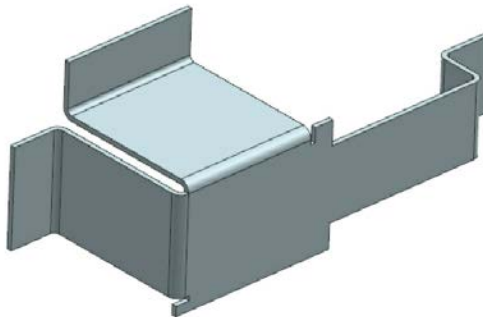

Figure 14-131 Model after creating all flanges
8. Next, create the remaining flanges, as shown in Figure 14-131. For dimensions, refer to Figure 14-126.